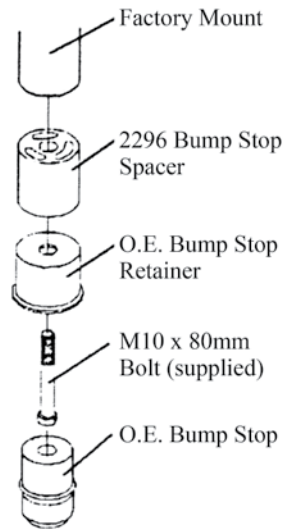

Figure 6
15. Install the provided 2" bump stop spacer between the factory retainer cup and the frame with a 10mm x 80mm bolt. Torque the bolt to 30 ft-lbs. Reinstall the factory rubber bump stop in the retainer (Figure 6).